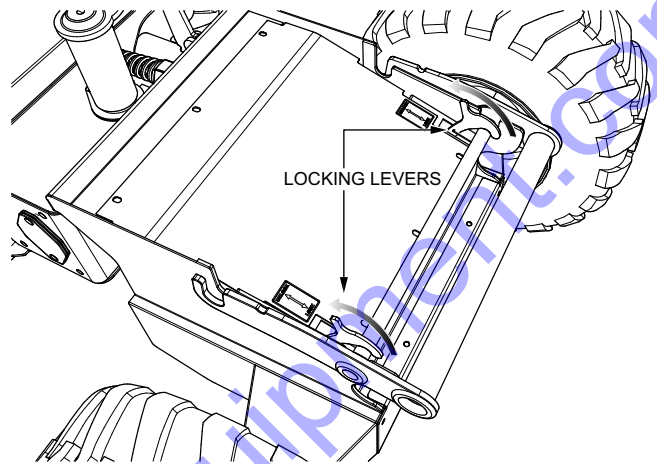

Figure 69. Locking Levers (Unlock)
1. Place both locking levers in the **unlock** position (Figure 69).